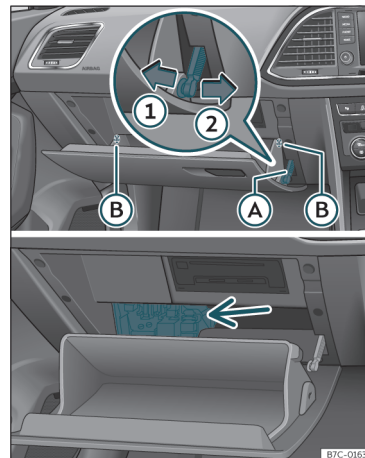

Fig. 89 Vehicles with the steering wheel on the right: access the fuse box behind the glove compartment.
- Undo the opening limiter >>> **Fig. 89** (A) in two steps: first, unlock the limiter by pulling back on it (arrow ①) and then move it gently to the right (arrow ②). Remove the guide when the cover is in the normal opening position (30°).
- Free the side pivots (B) to release the cover to its second opening position (60°).